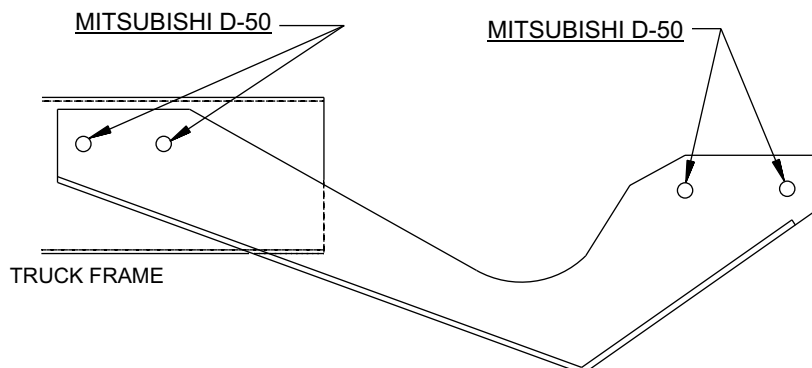

FIGURE 1
STEP 1: Using 1/2 inch hardware, loosely install mounting brackets on the outside of truck frame rails with the offset inboard. Refer to figure 1 and 2. DO NOT TIGHTEN mounting hardware at this time.